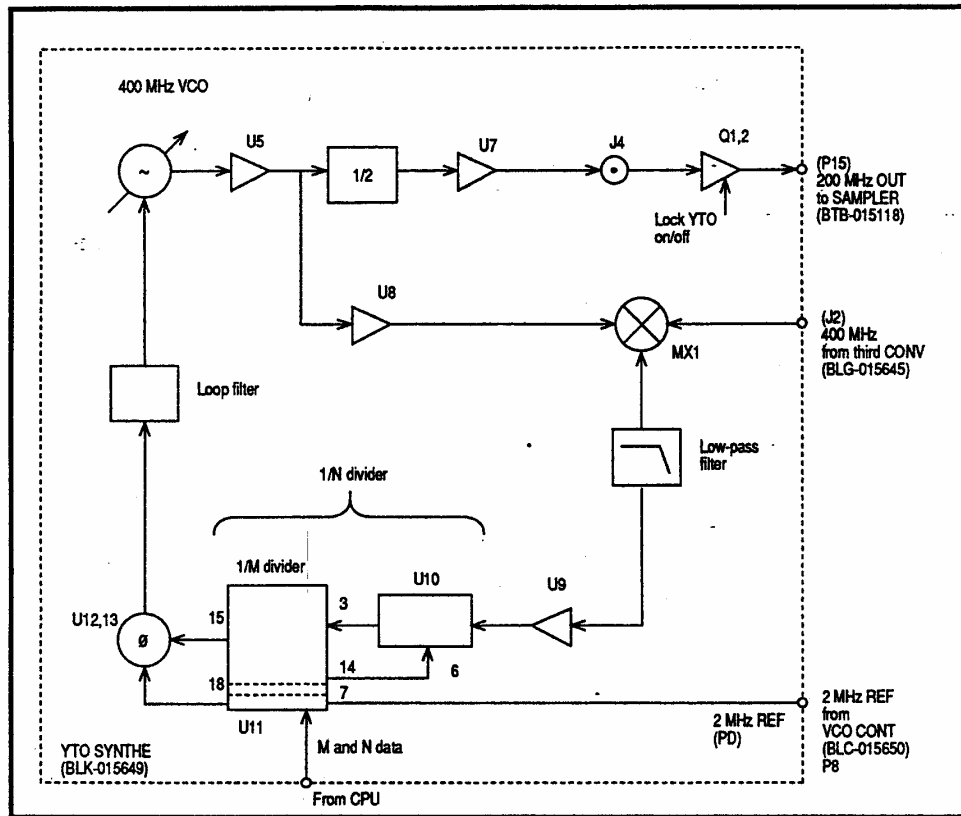

Figure 3-12 400MHz P.L.L.
Figure 3-12 (on the following page) shows the circuit diagram for the 400 MHz P.L.L., one of the major components of the first local oscillator. The 400 MHz P.L.L. has the following characteristics:
- U10 is a divider for 1/8 and 1/9 (see Figure 3-12).